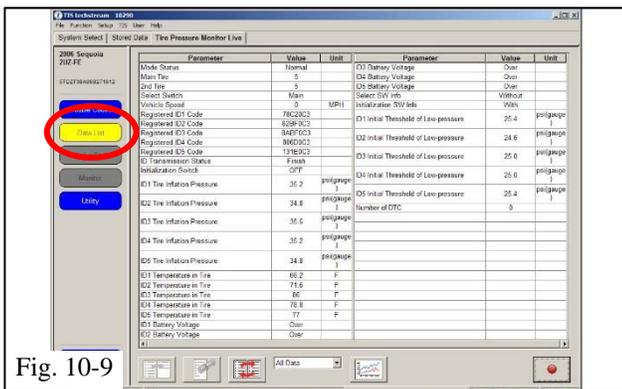

Fig. 10-9
- (l) Select “DATA LIST” to view and confirm the TPMS ID numbers have been correctly registered (Fig. 10-9).